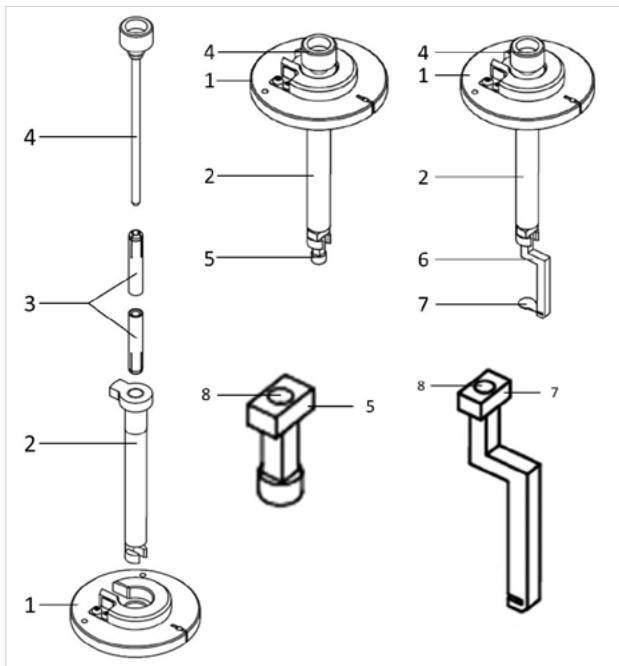

Figure 3 Sample adapter short and sample adapter long
2. Place two blue sleeves (as for the blue capillaries) into the sample holder stem universal. Make sure that the slits point outwards (Fig.3/3).
3. Take the locking rod and push it into the sample holder stem, through the blue sleeves (Fig. 3/3,4).
4. Take the sample holder disc (Fig.3/1) with the protruding side with positioning notch facing you. Position the sample holder universal into the sample disc holder until the ball bearing click-position is felt.
10. Use the Ergo Drive Panel or the Navigation Tool in ZEN to lower the stage until the end of the sample holder stem universal is comfortably reachable. Rotate the stage until the open part of the stem is facing towards you (Fig. 3/2).
11. Lift the locking rod up with one hand and place the sample adapter in the opening of the sample holder stem with the other hand (Fig. 3, middle and right hand images).
For the sample adapter long, make sure that the vertical bar is facing towards you and the sample away from you (see Fig. 3, right hand side).
12. Turn the clamp screw at the end of the locking rod a couple of times. The locking rod will hold the sample adapter by fixing its opening (Fig. 3/8)
13. Raise the stage, again pressing the Safety switch on the system, until the sample adapter and sample are not visible when looking directly into the front cavity anymore. Turn the clamp screw of the locking rod while holding on to the sample holder disc, until tight. The locking rod will be fixed in the opening of the sample adapter (Fig. 3/8) during this process.